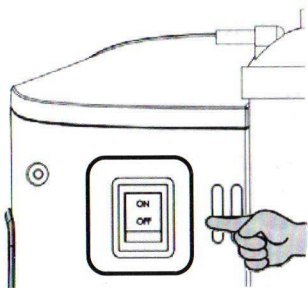
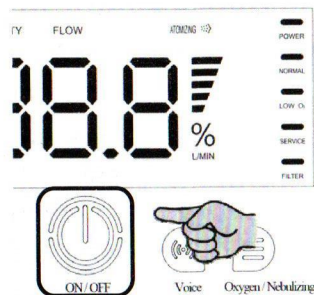

Fig. 8
Fig. 9
I. Turn the "power switch" to the On ( | ) position (Fig. 8), and then the power indicator will light up; after pressing the "ON / OFF" button on the panel (Fig. 9) once more, the oxygen concentrator will start and the normal operation indicator will light up.